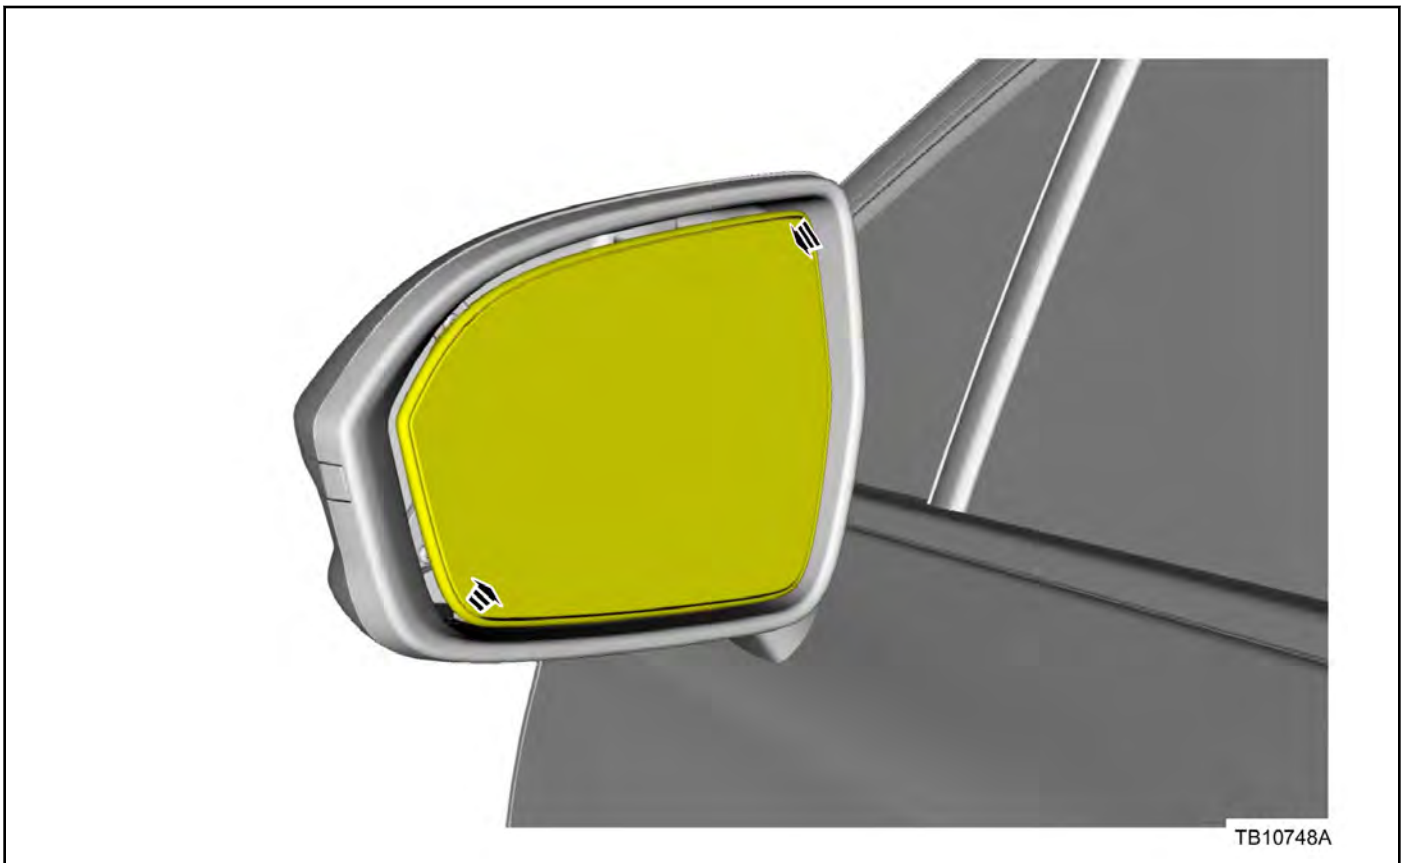

Figure 1 - Article 16-0022
1. Position the exterior mirror glass for access. (Figure 1)